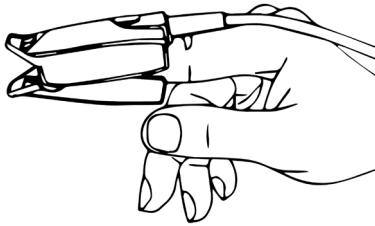

Figure 3.1.1
3. Insert one finger (index finger is preferred, the nail should be not too long) into the clip of the probe according to the finger mark, as shown in figure 3.1.1.